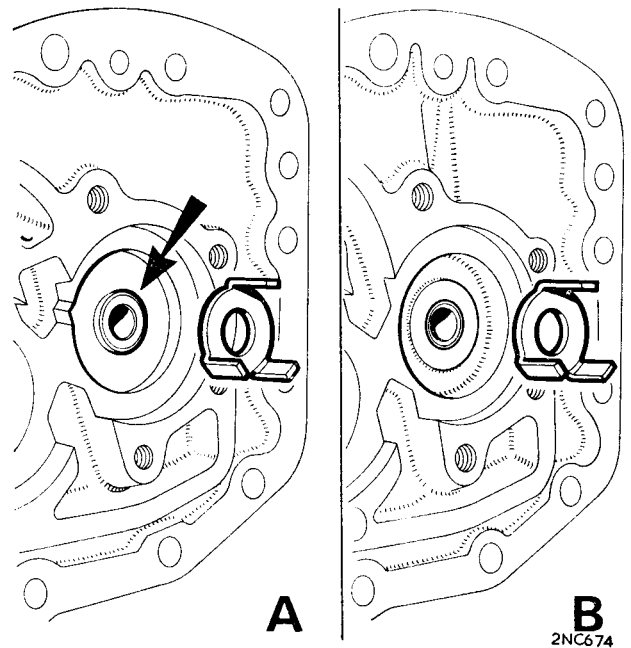

Fig. Fa.37
8. Remove the second auxiliary pump gear from the auxiliary pump housing together with its thrust washer; the earlier type cover is fitted with a bi-metal thrust washer with a plain bush fitted in the housing while the later type cover has a flanged bush and a steel thrust washer, see Fig. Fa.37.
All units except Mk. II B. Check the condition of the bi-metal thrust washer; if it has broken up and caused the bush in the housing to move deeper into its bore, replace the gears and housing assembly with the Mk. II B assembly which has a flanged bush and a steel thrust washer, see Fig. Fa.37.
9. Reassemble the auxiliary pump gear with its thrust washer to the pump casing (see Fig. Fa.37).